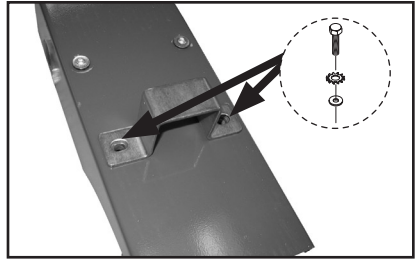

Figure 4. Mounting the hoist (pole not shown for clarity).
2. Have an assistant hold the hoist in place while the hex bolts, external tooth washers, and flat washers are threaded through each of the mounting brackets and into the top of the electric hoist, as shown in **Figure 4**.